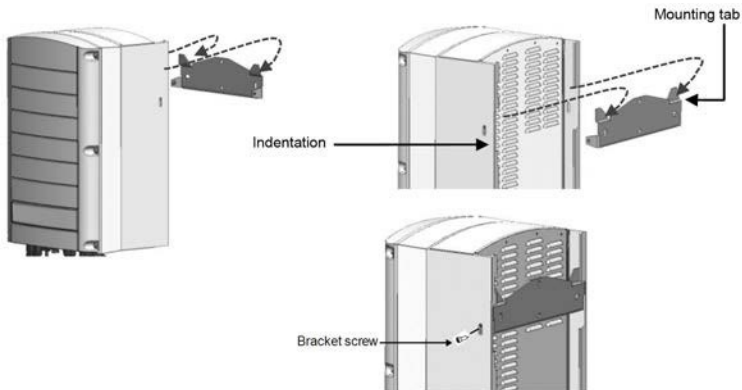

Figure 9: Hanging the inverter on the bracket
- Ensure that the flat edge of the bracket is at the bottom, as in *Figure 9*.
5. Hang the inverter on the bracket (see *Figure 9*): Lift the inverter from the sides, or hold it at the top and bottom of the inverter to lift the unit into place. Do not lift holding the Connection Unit/DC Safety Unit as it may be damaged.
8. Insert the two supplied screws through the outer heat sink fin on both sides of the inverter and into the bracket (see *Figure 9*). Tighten the screws with a torque of 4.0 N\*m / 2.9 lb.\*ft.